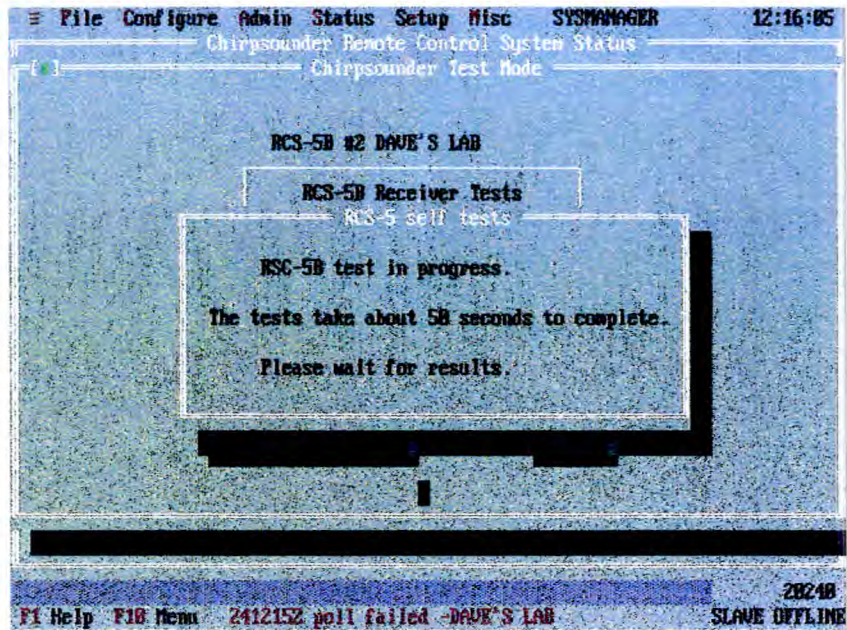
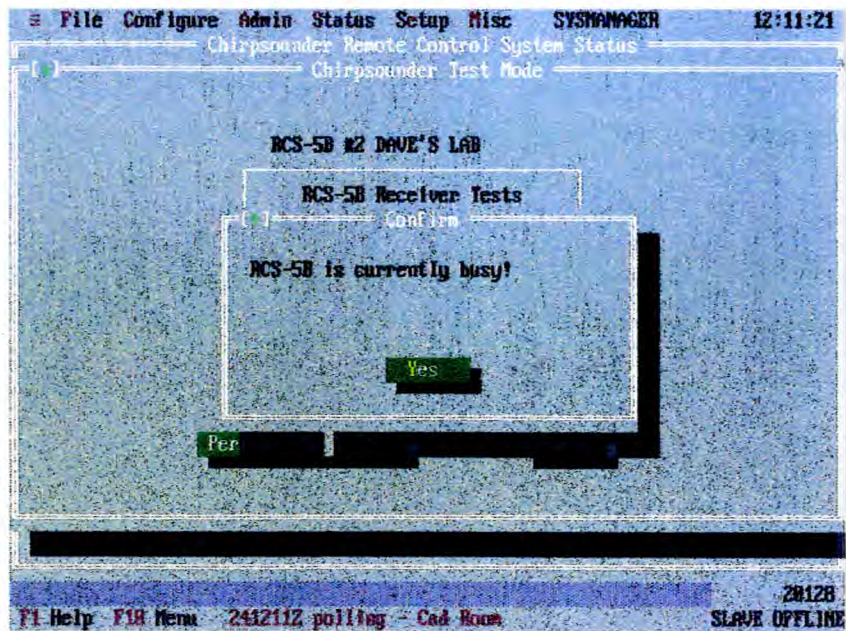

Fig 57
Fig 58
2.1 The screen shown in Fig. 57 shows that testing is under way. Had the selected RCS-5B been busy, ie being polled by any terminal, the screen shown in Fig. 58 would have been displayed.